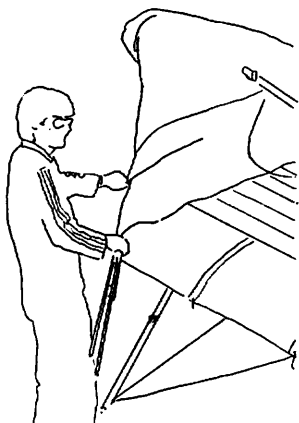
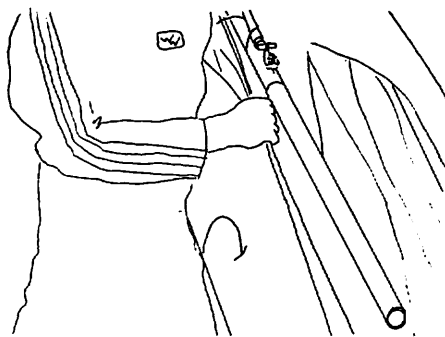

FIG 63
FIG 64
9) Pull the sail out so that both the top and bottom folds of the sail are equally taut, and roll the washout tips and lower surface battens up in the sail. (Fig 63) Do one side first, and pull the mylar pocket up and around the rolled sail (Fig 64) and secure it temporarily with one velcro strap.